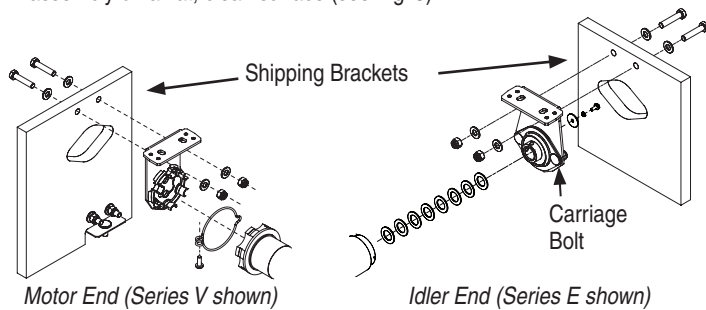

Figure 5
- The motor end mounting bracket has a metal bracket with snap ring for accepting motor head. The idler end mounting bracket has spherical ball bearings for accepting the idler pin. Both brackets have four set screws that will be used to tighten the brackets in place inside the case. Back out the four set screws in bracket until they are flush with top side of bracket, then remove the roller assembly from the shipping brackets, placing the roller assembly on a flat, clean surface (see Fig. 5).
- Re-tighten the carriage bolts in the Idler-end Bracket Assembly so that the flange-mounted bearing is locked in place (see Fig. 5).